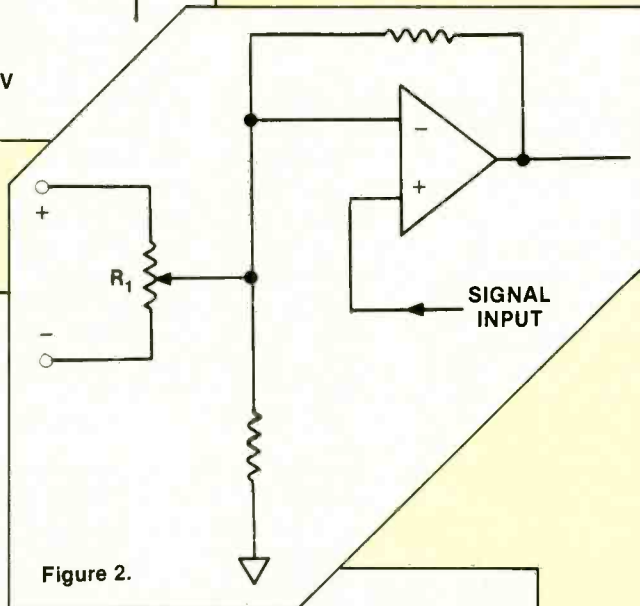

Figure 2.
2. In Figure 2 the purpose of R1 is to adjust